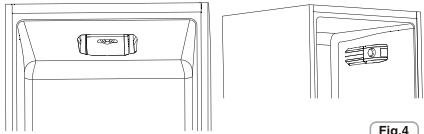

Fig.4
- The thermostat unit for control of the appliance is located inside of the refrigerator compartment (Fig.4). Rotate the thermostat knob of the thermostat beyond the "0" position. The light is on when the refrigerator door is open. Turning the knob to "0" completely turns off the product. Turning the knob to "0" completely turns off the product